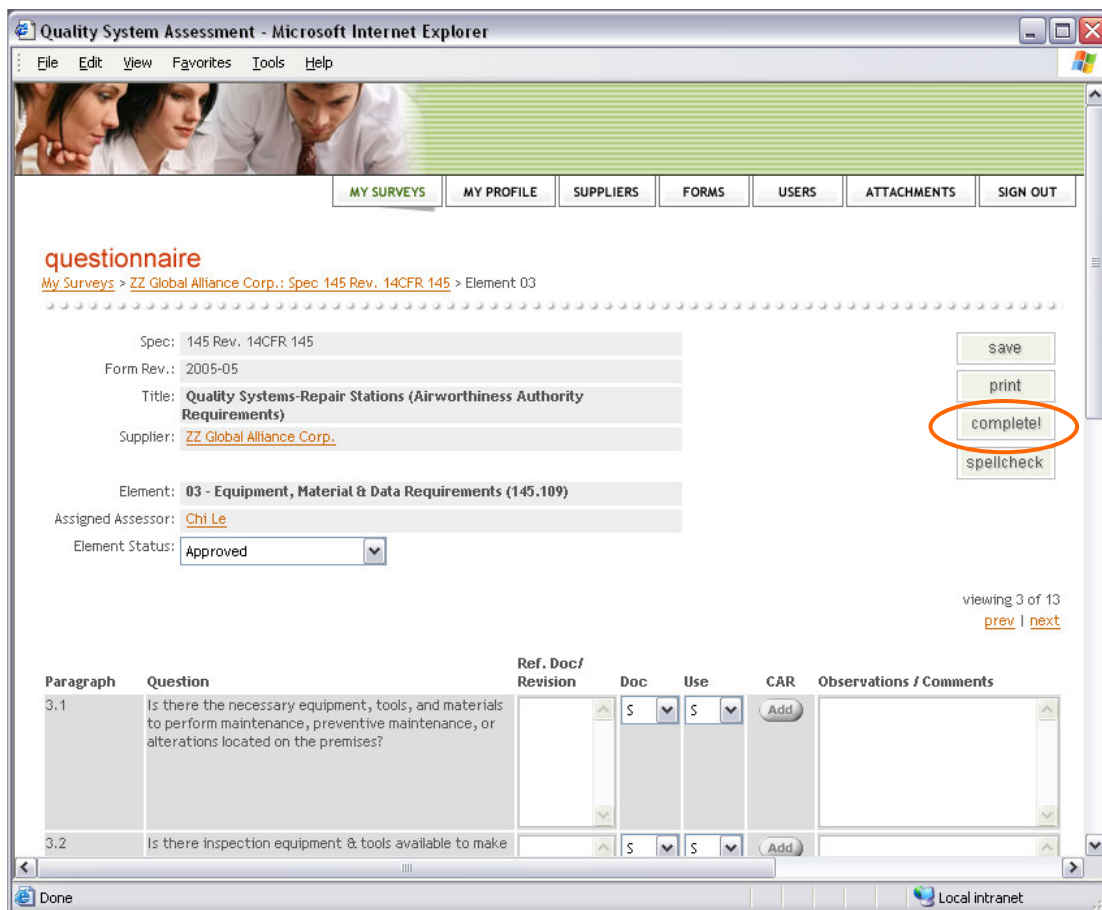

Figure 28 – Completing a Survey
- When you are ready to close the element, click on the “complete!” button to close that element (as shown in figure 28).